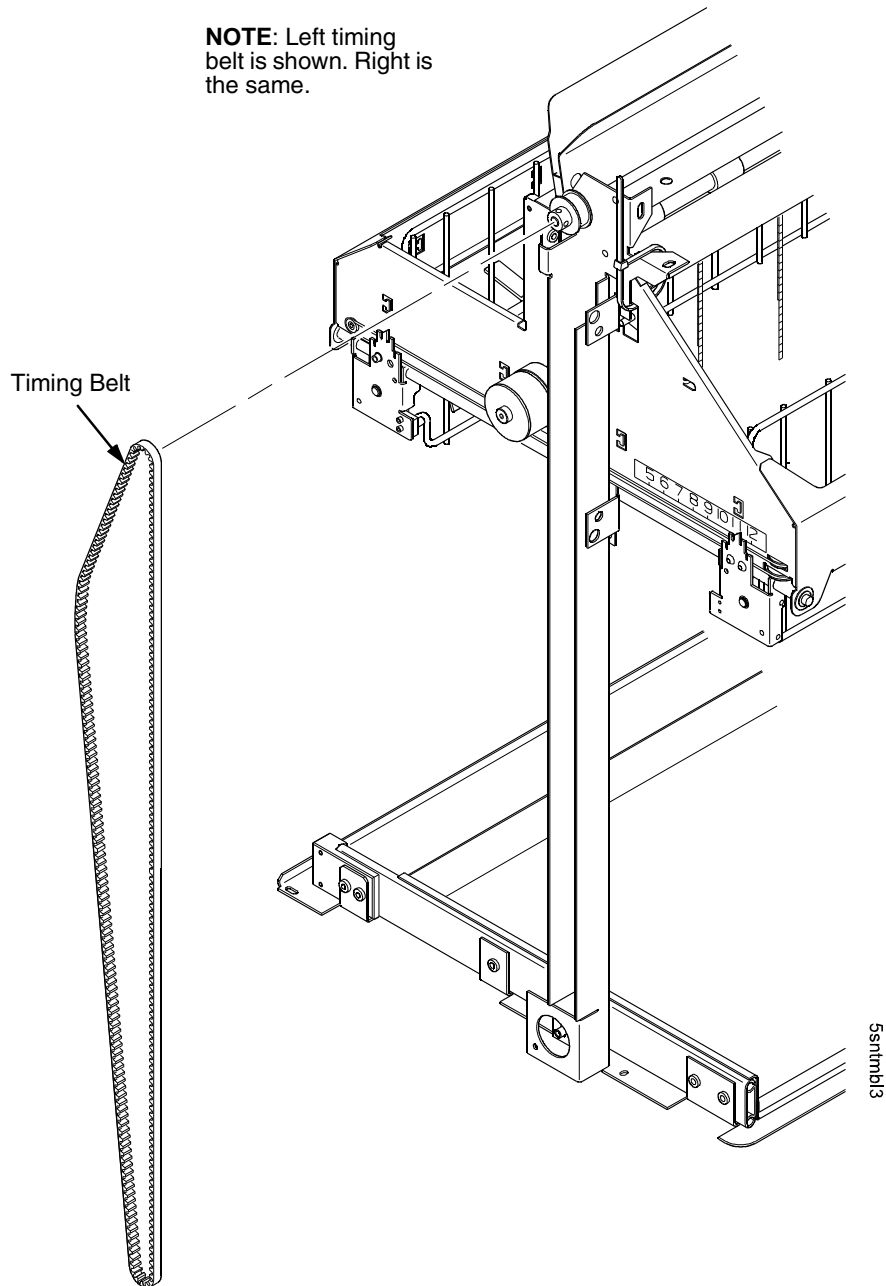

Figure 98. Removing the Timing Belt
8. Remove the timing belt by working it around the vertical rail and constant force spring. (Figure 98.)